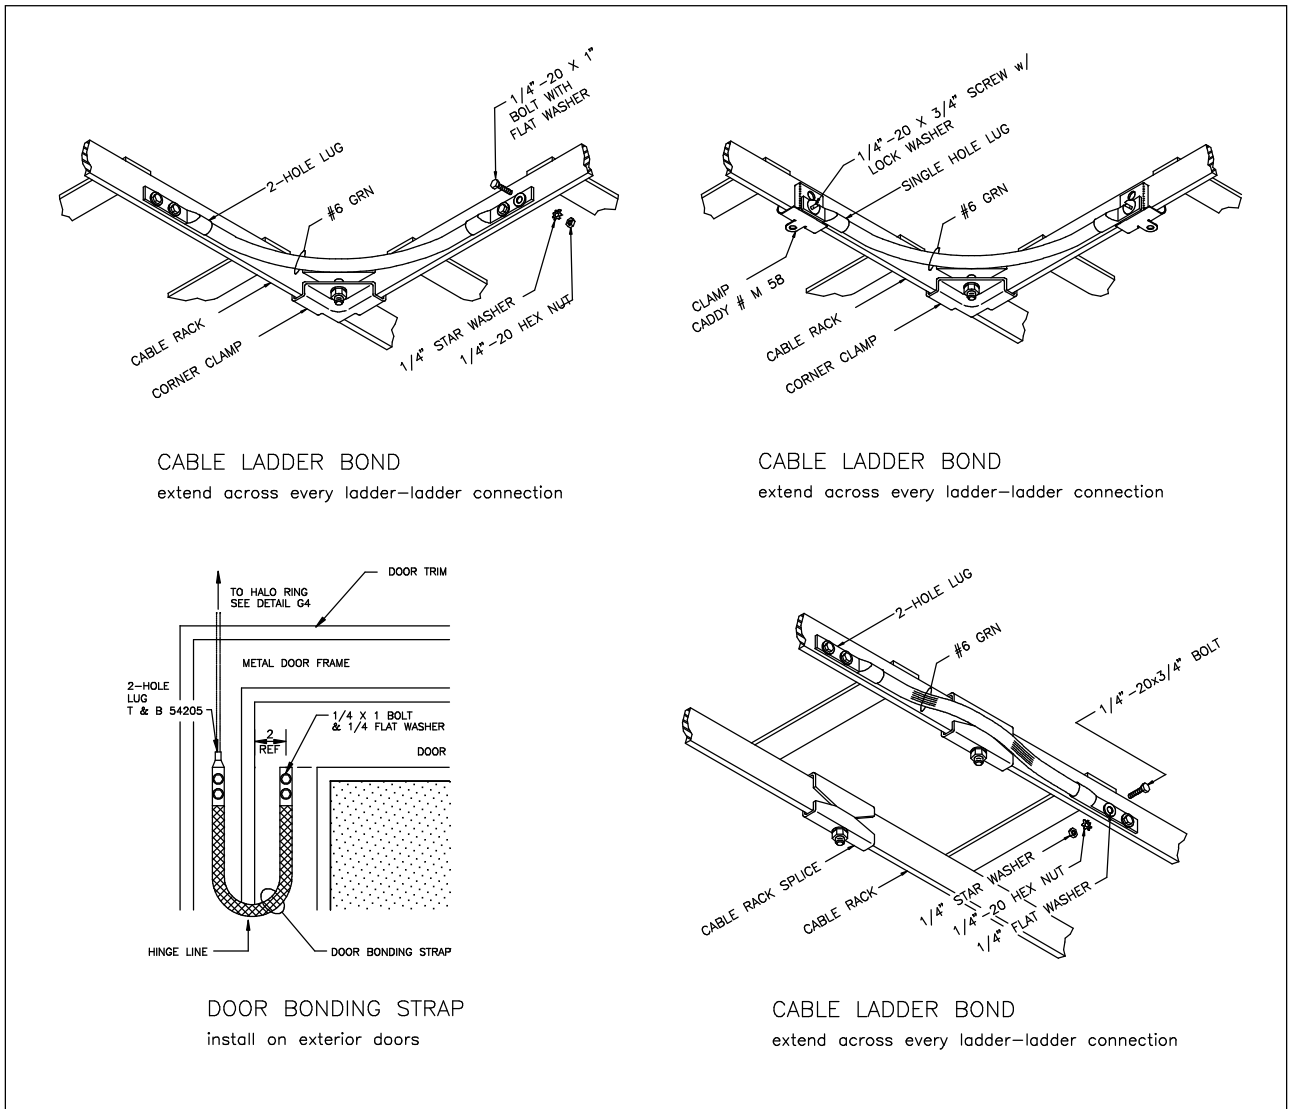

Figure 4 - Bonding Cable Trays and Metal Doors
7.4 Cable trays, ladders, and metal doors shall be bonded to the internal ground ring as illustrated in Figure 4.